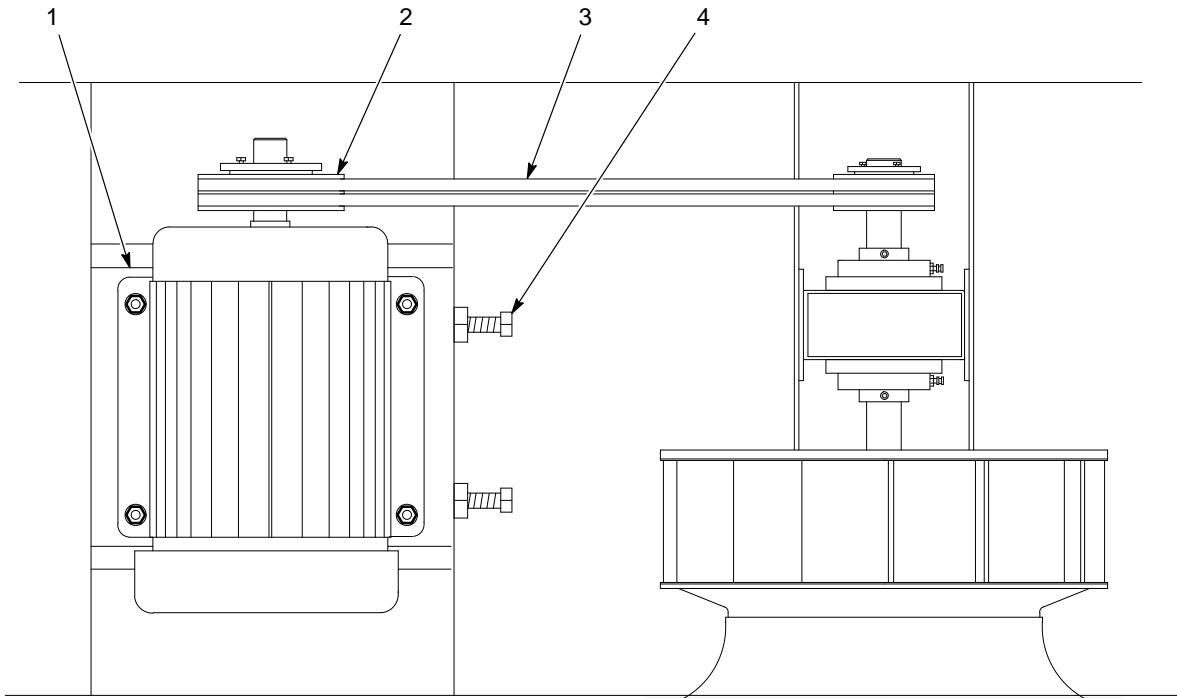

Figure 6-9 V-Belt Replacement
2. See Figure 6-9. Unscrew the tensioning bolts (4) on the side of the motor mount (1). This will allow you to slide the motor and mount toward the fan and loosen the V-belts (3).
3. Rotate the motor or fan by hand and roll the V-belts off the sheaves (2).